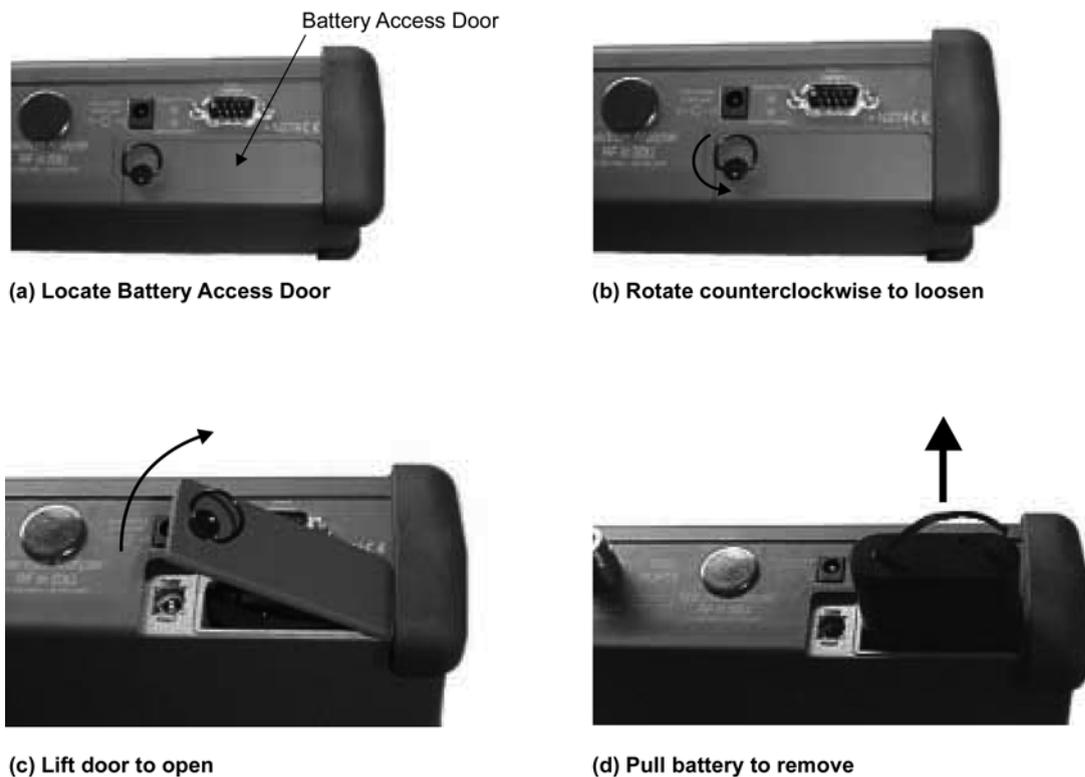

Figure 3-1. Battery Pack Removal
1. With the LMR Master standing upright on a stable surface, locate the battery access door (Figure 3-1).
2. Lift up the access door handle and rotate it 90° counterclockwise, as illustrated in Figure 3-1.
3. Lift the door and remove, as illustrated in Figure 3-1.
4. Grasp the battery lanyard and pull the battery straight up and out of the unit, as illustrated in Figure 3-1.